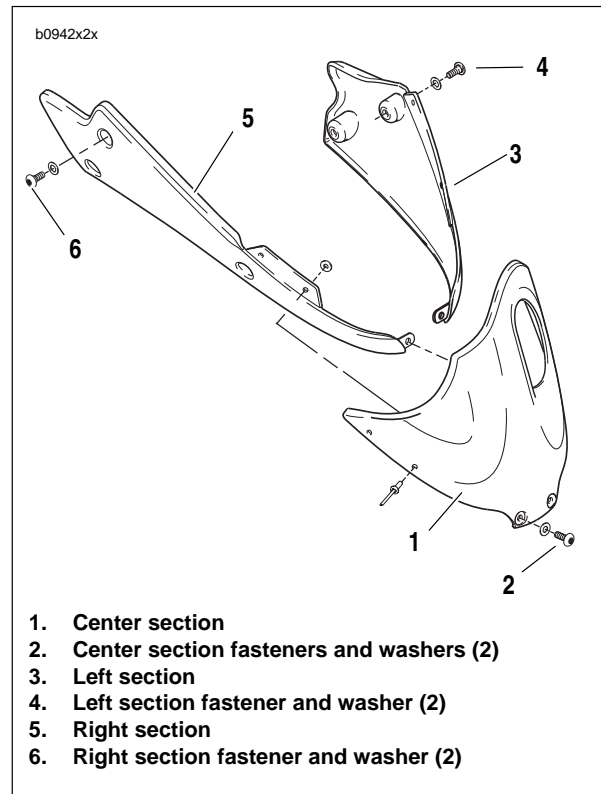

Figure 2-116. Chin Fairing
2. See Figure 2-116. Remove center section fasteners and washers (2).
3. Remove left section fasteners and washers (4).
4. Remove right section fasteners and washers (6).
2. See Figure 2-116. Position the assembled chin fairing (5) and loosely install right side fasteners and washers (6).
3. Align center section (1) and loosely install center section fasteners and washers (2).